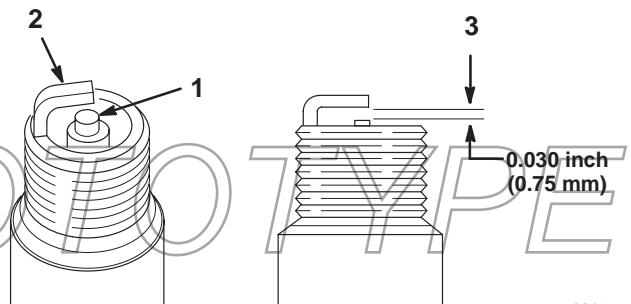

Figure 35
1. Look at the center of the spark plug(s) (Fig. 35).
3. Check the gap between the center and side electrodes and bend the side electrode if the gap is not correct (Fig. 35).